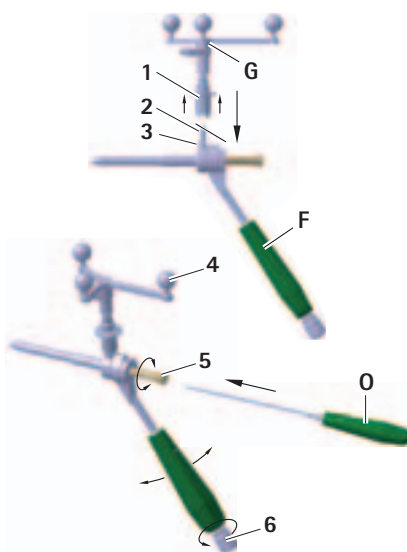

Fig. 1 Mounting the Aesculap star unit on S⁴C drill guide FW654R
- To ensure the camera has an unrestricted view on the reflective marker spheres, unscrew knob 6 on the handle of the S⁴C drill guide F and turn the Aesculap star unit G to the desired position, see Fig. 1.